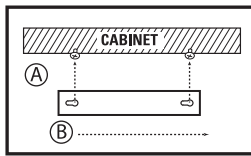

Fig. 2
6. Mount the LED light bar to surface by aligning screws to keyholes and sliding into place to secure, as show in **Figures 2 and 3**.